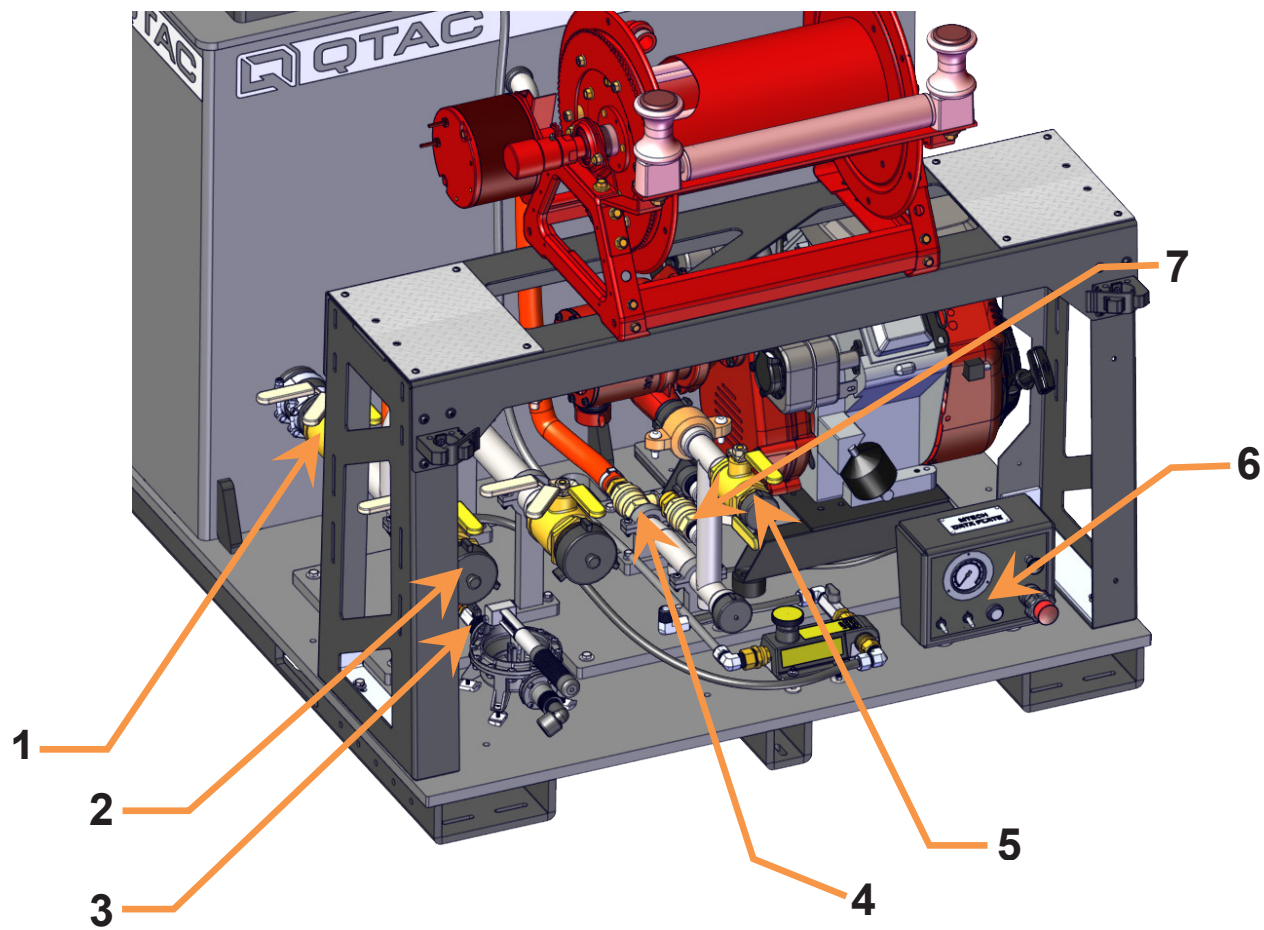

Figure 1 – Pump Area Close-Up
**NOTE: All valves in Figure 1 are shown in the open position.**
1. Open the 2" tank-to-pump valve. (*Figure 1, Item 1*) All other valves are to be closed.
2. Remove the cap from the 1-1/2" discharge. (*Figure 1, Item 5*). Open the valve fully. After water begins to flow from the valve, close the valve, but do not install the cap.
6. Open the 1-1/2" discharge. (*Figure 1, Item 5*). After the pump primes open the 1" pump-to-tank valve slightly, (*Figure 1, Item 4*) then close the 1-1/2" discharge and install the cap.
1. Open the 2" tank-to-pump valve. (*Figure 1, Item 1*)
3. Open the Primer valve. (*Figure 1, Item 3*)
5. Close the Primer valve. (*Figure 1, Item 3*)
9. Remove the cap from the 1-1/2" discharge. (Figure 1, Item 5) Open the valve to fully open. After the pump primes open the 1" pump-to-tank valve slightly, (Figure 1, Item 4) then close the 1-1/2" discharge. Fully opening the 1" pump-to-tank valve relieves the back-pressure on the pump by allowing water to pass through the pump.
1. Once the pump is running and flow has been established closing the pump-to-tank valve from fully open to 1/4-open (Figure 1, Item 4) reduces the flow returning to the tank and increases pressure.
**CAUTION!** During pumping operations, the operator should leave the pump-to-tank valve (Figure 1, Item 4) open slightly to bypass water through the pump. Doing so ensures that the pump will not overheat if the nozzle is closed completely. If the pump is run with the pump-to-tank valve completely closed, the operator **MUST LEAVE THE NOZZLE RUNNING** – at least partially – at all times. Closing the nozzle when the pump-to-tank valve is closed will result in overheating the pump!
1. Open the hose reel supply valve (Figure 1, Item 7)
1. Connect your hose fitting to the 1-1/2" NST discharge outlet (Figure 1, Item 5).
1. Fill the draft hose with the foot valve full of water. Connect the drafting hose to the 2" draft valve and open the valve. *(Figure 1, Item 2)*
3. Open the Primer valve. *(Figure 1, Item 3)*
4. **Close the Primer valve.** *(Figure 1, Item 3)*
8. Remove the cap from the 1-1/2" discharge. *(Figure 1, Item 5)* Open the valve to fully open. After the pump primes open the 1" pump-to-tank valve slightly, *(Figure 1, Item 4)* then close the 1 1/2" discharge. Fully open the 1" pump-to-tank valve to fill the tank. *(Figure 1, Item 4)*
2. Once flow has been established in the hose line, close the 1" pump-to-tank valve *(Figure 1, Item 4)* and open the corresponding valves for the outlets desired (1 1/2" discharge, hose reel, etc.)
- a. Close the pump-to-tank valve (*Figure 1, Item 4*). Remember that if this valve is closed, a discharge must be open to prevent pump head overheating